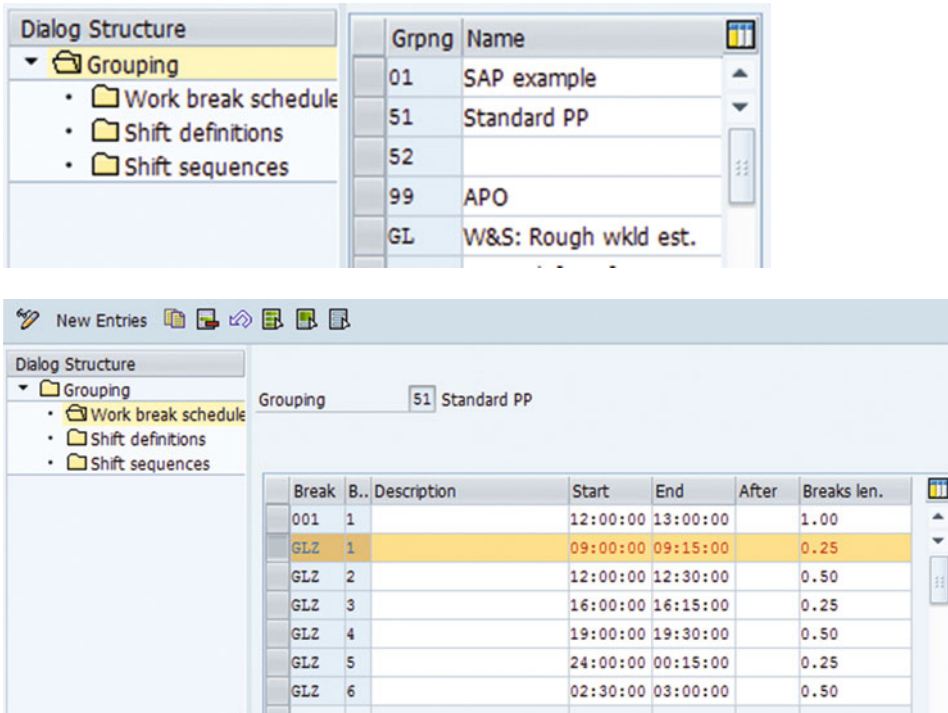

Figure 3-2. Configure shift grouping
5. Select the pen icon to add new or maintain existing break schedules for the shift group. (Refer to Figure 3-2.)